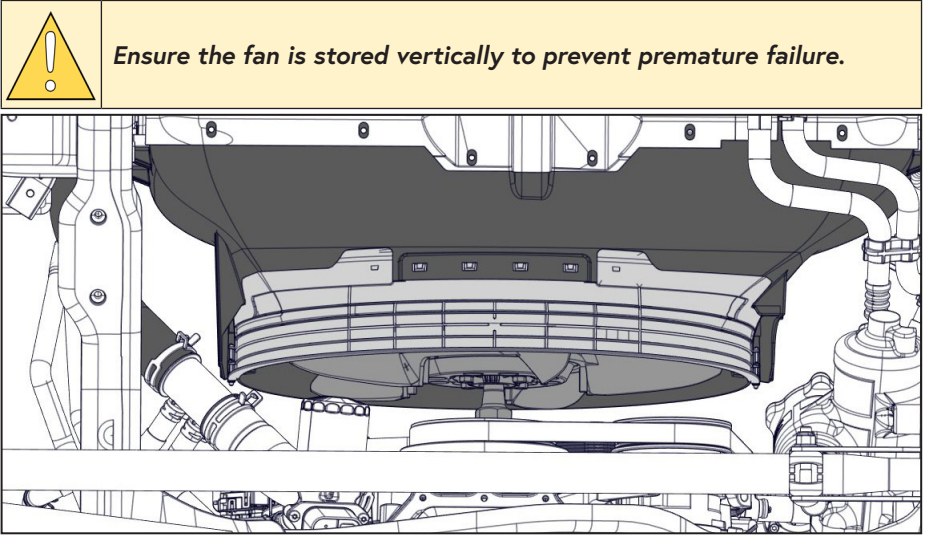

Figure 8 — Remove fan
- ☐ Remove the fan and upper shroud together. Use care to ensure the radiator is not damaged during removal or installation (Figure 8).
- ☐ Remove the radiator side of the lower radiator hose and set it aside for later (Figure 8).